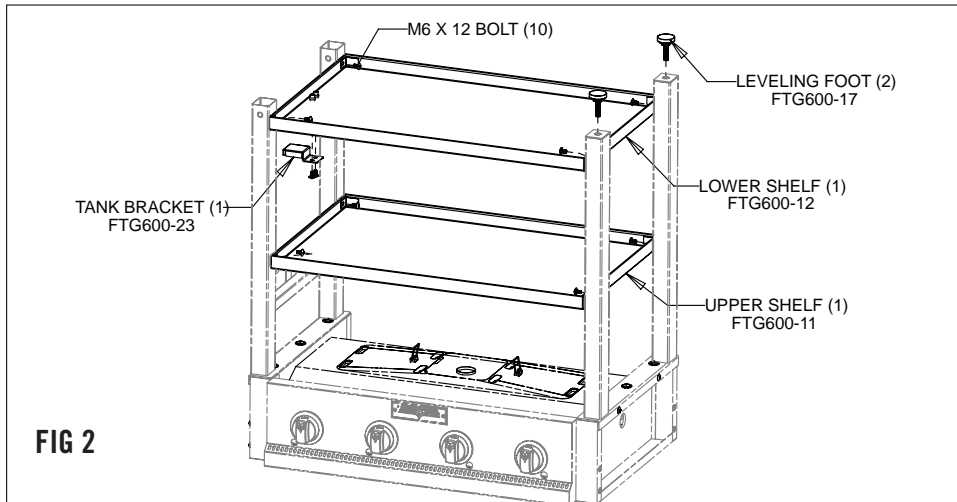

FIG 2
5. Install the upper shelf as shown in Figure 2. Tighten all hardware.
6. Install the lower shelf as shown in Figure 2. Tighten all hardware. Note: Lower shelf has extra holes for the tank bracket. Shelf must be oriented so that the tank bracket is on the side of the stove with the regulator hose.
7. Install the tank bracket as shown in Figure 2. Tighten all hardware.
8. Install the leveling feet as shown in Figure 2. (Note: The leveling feet can be adjusted later to level the grill)